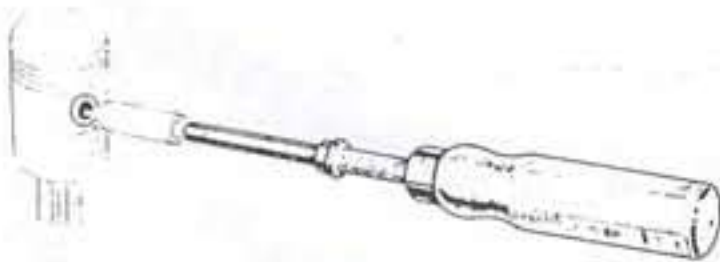

Fig. 7
- Insert the assembler tip into the wrist pin (fig. 7).
- Push home while pressing against the opposite side of the piston to prevent unnecessary pressure on the big-end bearing. The assembler stop will correctly position the pin in the piston (fig. 7).